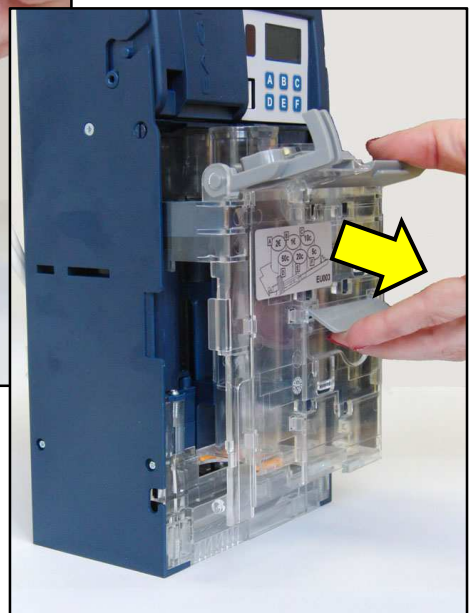

Fig.4C
4. Pull out the tube group (Fig.4C).